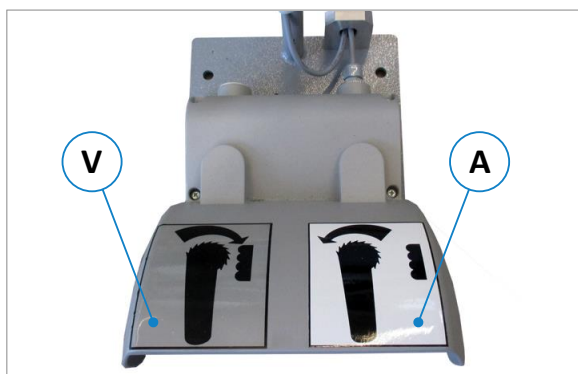

Figure 41: Function of the foot control pedal
- Place the footswitch (F) in an easily accessible position in the “working area” (see ⇒ Figure 41) on the infeed side of the machine.
The foot control paddles shown in ⇒ Figure 41 have the following function: